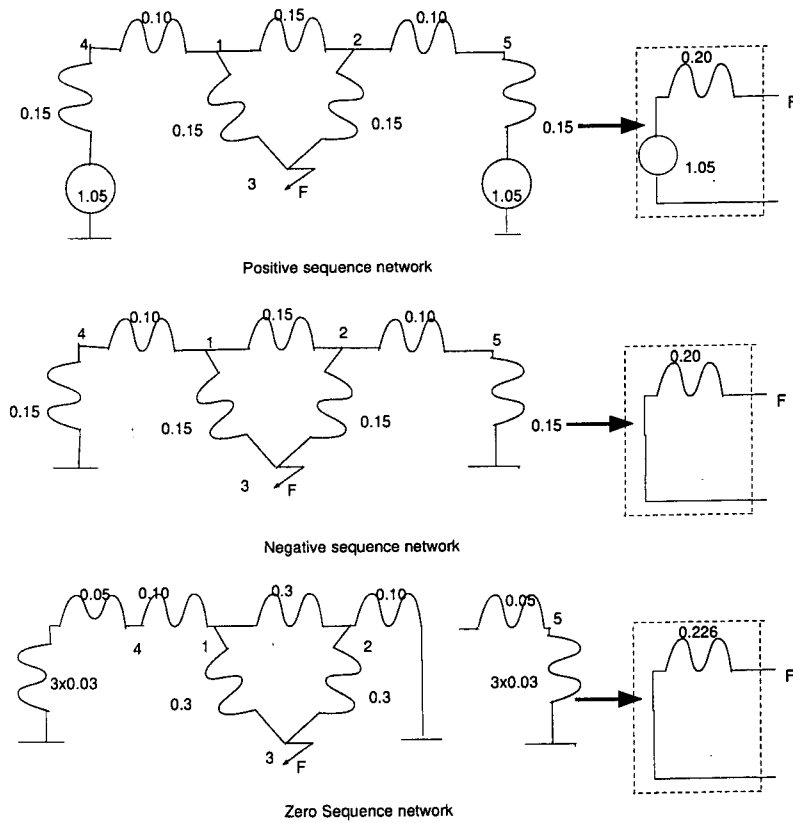

Figure 6.1: The sequence networks representation of the system
- (b) (**New computed example**) The first task is to break this system into three sequence network. This is shown in Fig6.1 where the detail representation for each network is shown and then it is simplified with respect to fault point F.
The required star-delta transformation is adopted for network simplification. The positive sequence network contains voltage sources of 1.05 p.u. voltage. the pre-fault voltage in the absence of load current is 1.05 p.u. at fault location. The simplified total positive sequence reactance is 0.20 p.u. as shown in Figure 6.1. [4marks]